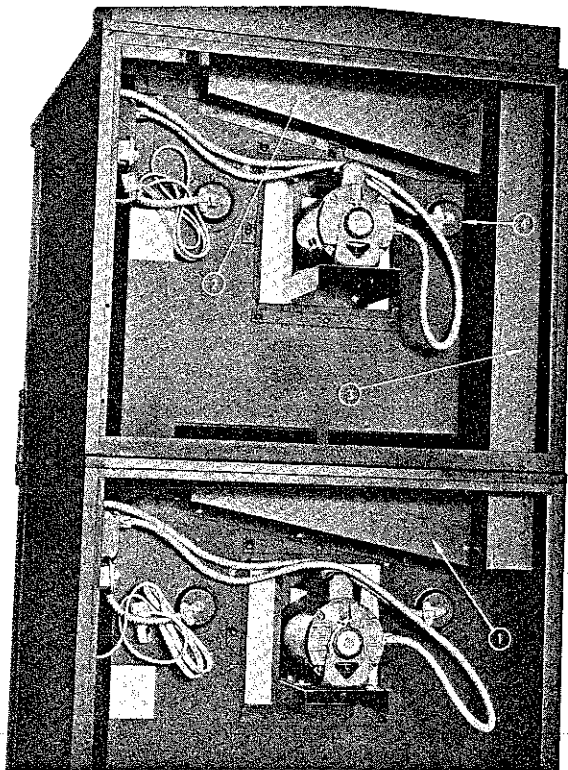

FIG. 4
4. The flue for the FA-102 or GZL-20 consists of three pieces. (Figure 4, No. 1) A lower flue box (Figure 4, No. 2) an upper flue box and (Figure 4, No. 3) a riser which connects the two flue boxes. These three pieces are put into position and fastened to the oven and to each other with the sheet metal screws, as shown.